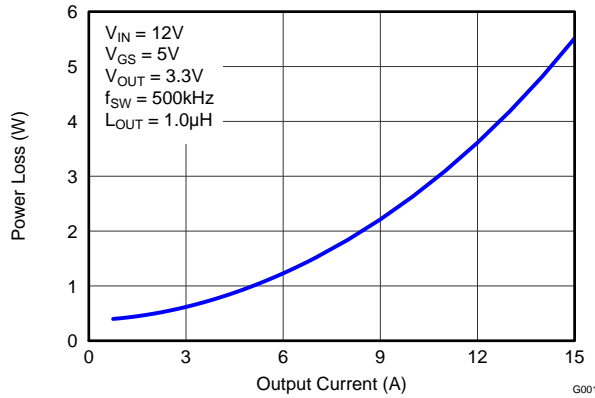
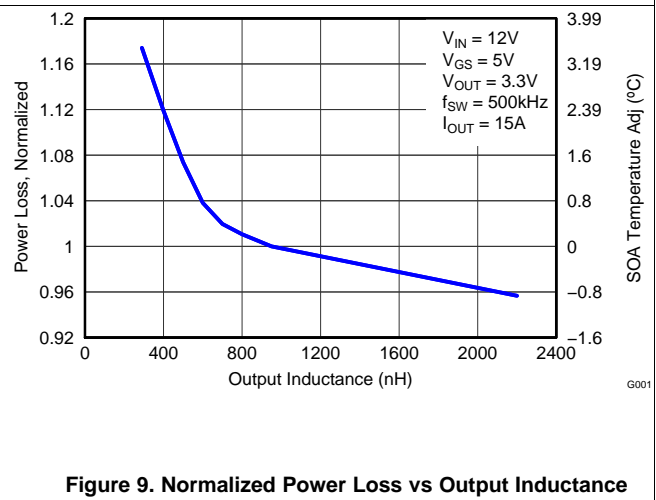
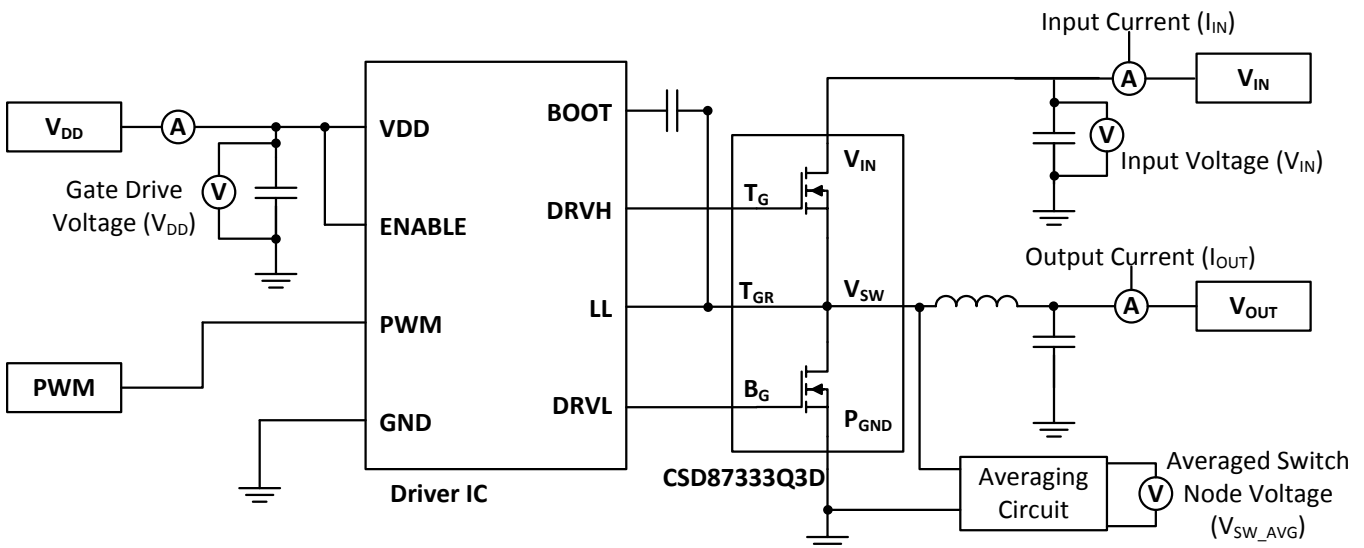

Figure 1. Power Loss vs Output Current
Figure 9. Normalized Power Loss vs Output Inductance
Figure 19. Typical Application
The typical power block system characteristic curves (Figure 1 through Figure 9) are based on measurements made on a PCB design with dimensions of 4 in (W) × 3.5 in (L) × 0.062 in (H) and 6 copper layers of 1-oz copper thickness. See Applications for detailed explanation. $T_A = 125^\circ\text{C}$, unless stated otherwise.
MOSFET centric parameters such as $R_{DS(ON)}$ and Q_{gd} are needed to estimate the loss generated by the devices. In an effort to simplify the design process for engineers, Texas Instruments has provided measured power loss performance curves. Figure 1 plots the power loss of the CSD87333Q3D as a function of load current. This curve is measured by configuring and running the CSD87333Q3D as it would be in the final application (see Figure 19). The measured power loss is the CSD87333Q3D loss and consists of both input conversion loss and gate drive loss. Equation 1 is used to generate the power loss curve.
The power loss curve in Figure 1 is measured at the maximum recommended junction temperatures of 125°C under isothermal test conditions.
- Power loss at 10 A = 2.6 W (Figure 1)
- Normalized power loss for output inductor \approx 1.03 (Figure 9)
- SOA adjustment for output inductor \approx 0.8°C (Figure 9)